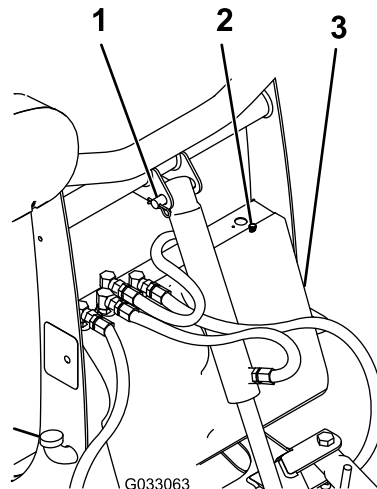

Figure 39
2. Remove the hairpin cotter and clevis pin from the top of the lift cylinder and lean it forward (Figure 39).
3. Remove the 2 thumbscrews securing the coupler-tower cover to the coupler tower (Figure 39).